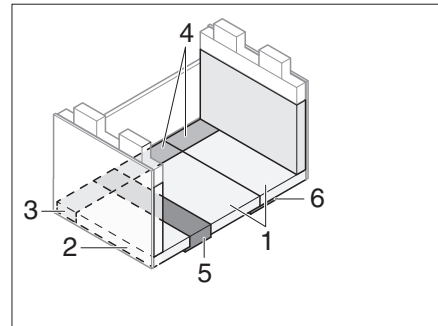

Fig. 211 After conversion
- Lay on the seat, backrest and additional cushions as shown in Fig. 211.
- ▷ In order to achieve higher resting comfort, the cushion insert can be removed from the back cushion (Fig. 211,2).